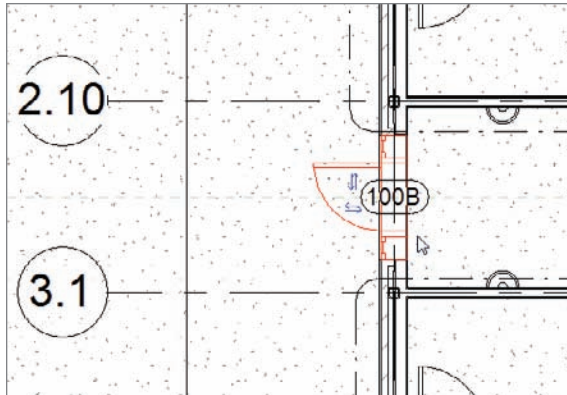

FIGURE 10.34 Copying the first floor door to the clipboard and pasting it to Level 2
2. Select the door that is there (see Figure 10.34).